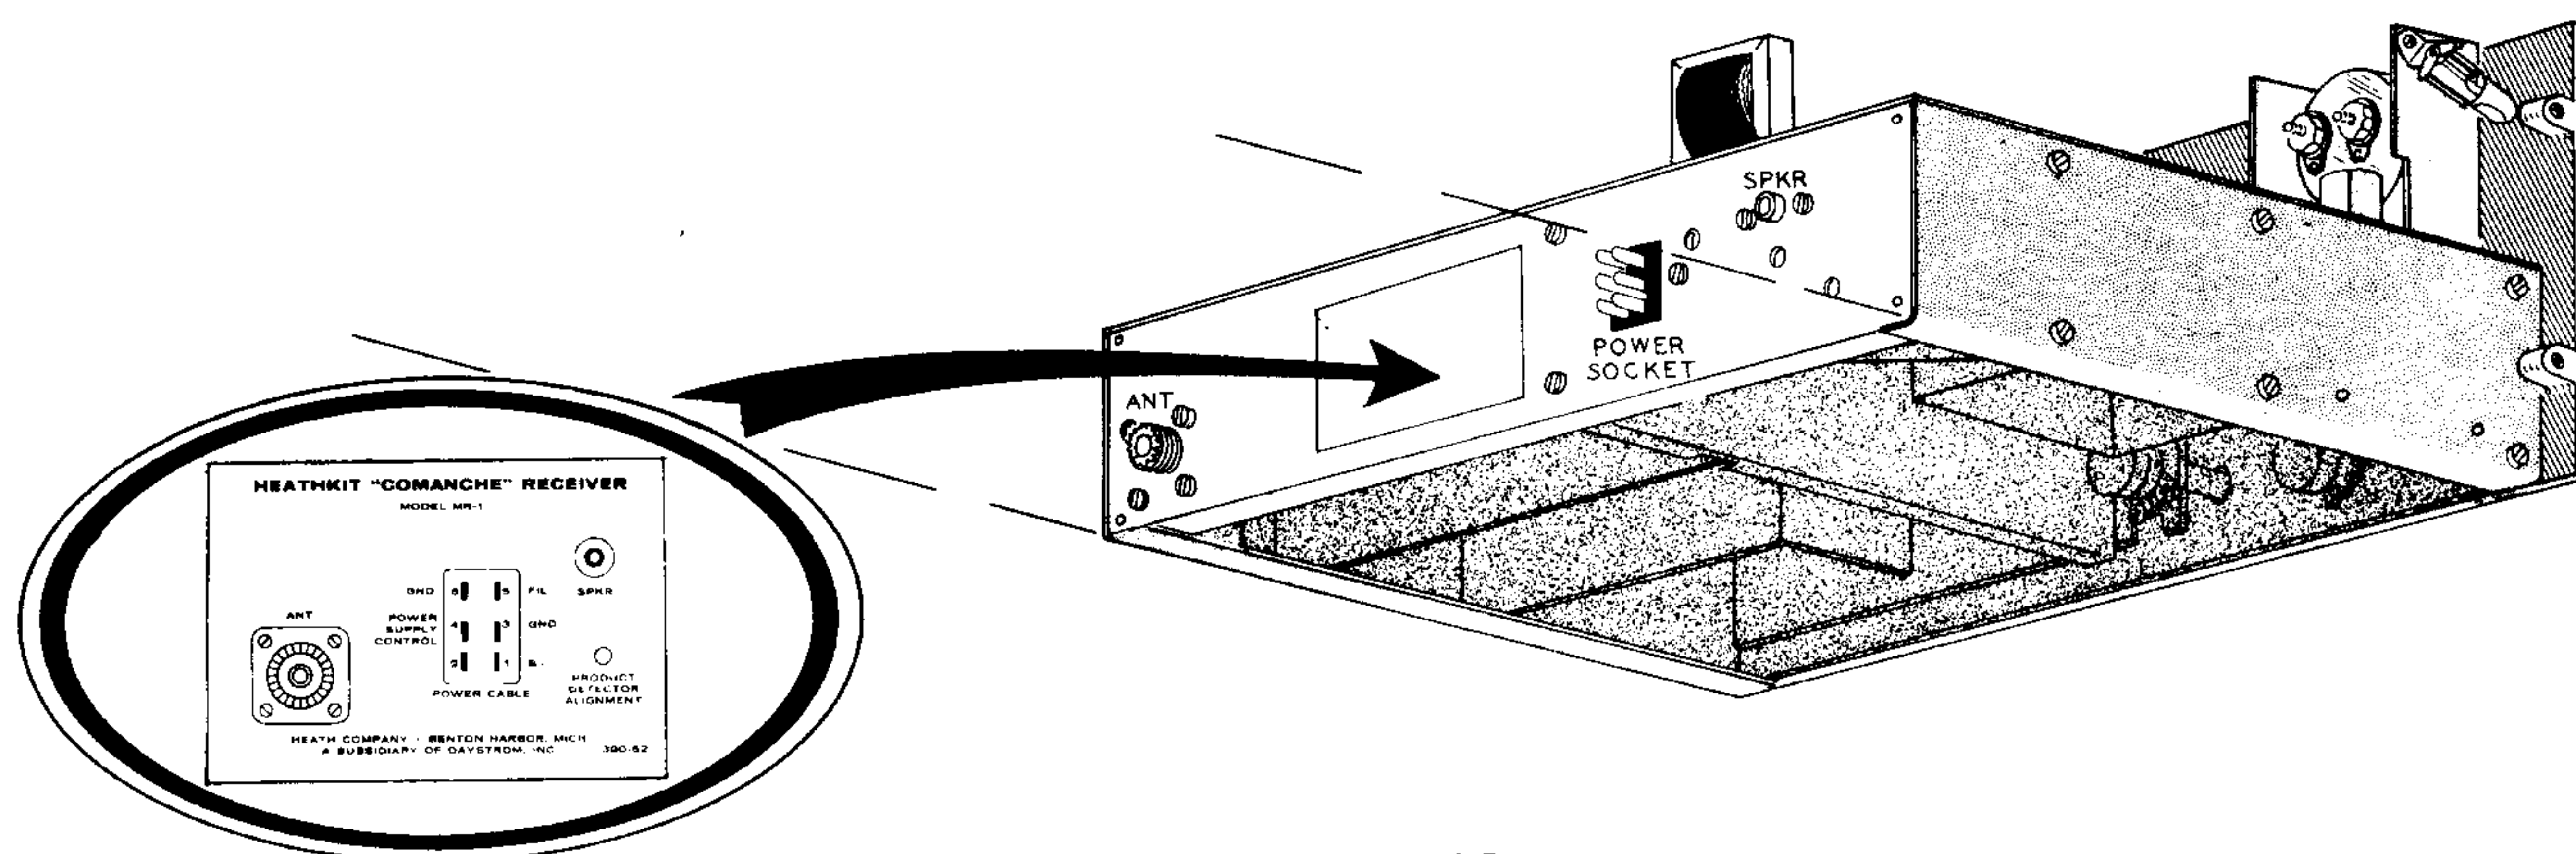

Figure 32
- () Locate the label (#390-62) and mount on the rear apron, as shown in Figure 32.
- () The speaker plug (#438-4) fits the speaker jack on the rear panel of the "Comanche" Receiver. See Figure 32. As stated previously, no speaker is furnished with the "Comanche" Receiver, but the kit builder undoubtedly has in mind by this time a speaker of 8 ohms voice coil impedance for use with his kit.